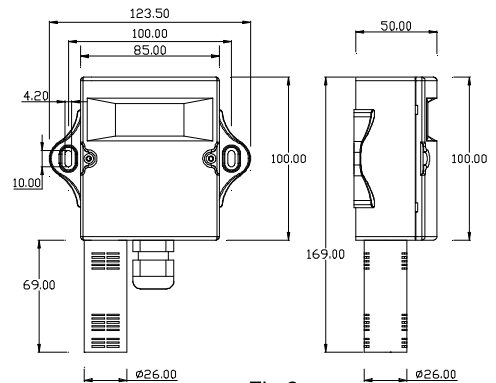

Fig.2
- ◆ Mount the wall plate first (see fig2), Place the transmitter against the wall at desired location; make sure wires can be passed through the notch on the wall plate.